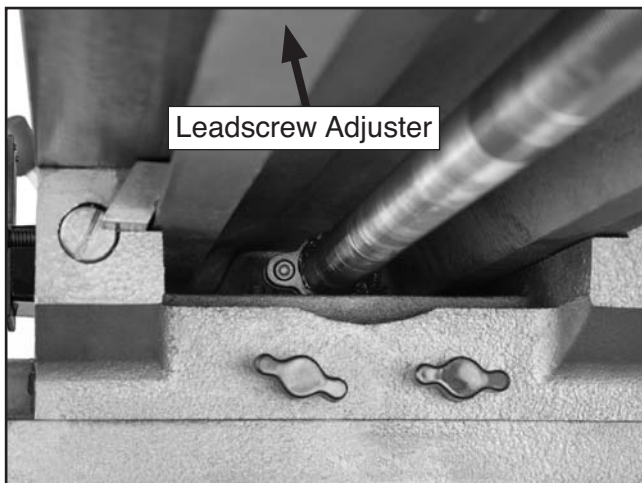

Figure 45. X-plane leadscrew adjuster.
1. Locate the X-plane leadscrew adjuster under the middle of the table. The head on the adjustment screw faces to the right (**Figure 45**).